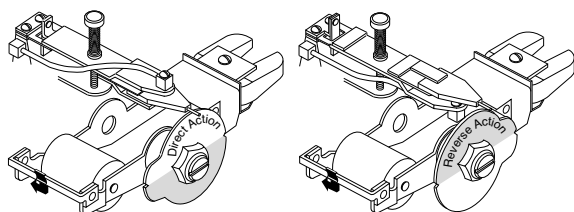

Figure 10
Should it be required to change the controller action, the action cam can be manually rotated 180° to the desired action. Make certain that the notch in the cam is set into the tab of the pilot nozzle assembly. Cam actions are clearly marked on the cam face as indicated in Figure 10. A zero adjustment will normally be required upon change.
2. Check that the pilot nozzle assembly is set up for differential gap operation. Figure 10 on page 13 illustrates the pilot nozzle flapper configurations used for the two control modes, proportional and differential gap. If your unit is already set up for differential gap mode, proceed to step 3.